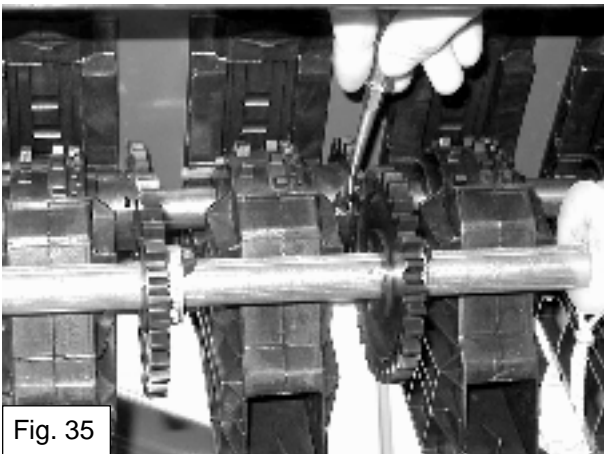

Fig. 35
- Remove the two gearwheel halves from the seed roller (fig. 35).